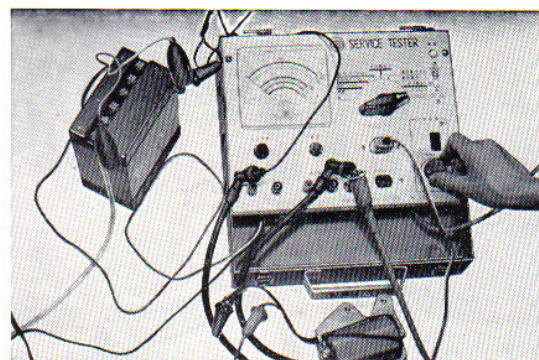

Fig. 5.109 Coil test connection
- (1) Connect the power source battery (12V), and ground.
- (2) Connect the white cord with the connecting plug to (-) terminal and the red to the (+) terminal.
- (3) Connect the red high voltage cord, which comes from the tester socket to the high voltage cord of the coil. (Fig. 5.109)